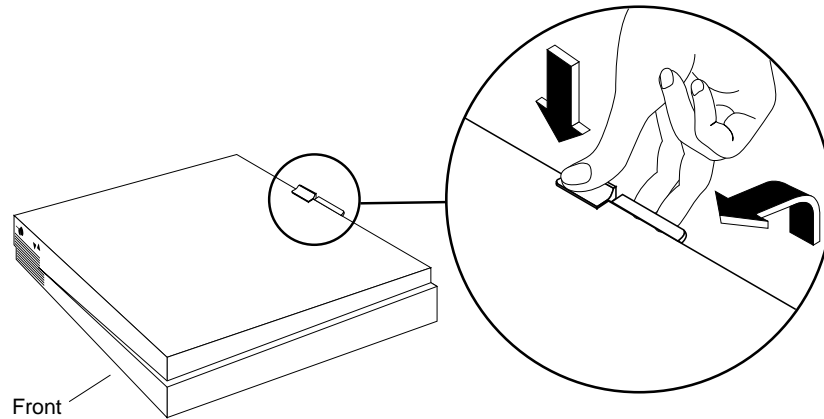

Figure 2-28 Removing the Top Cover From the Indy Workstation
3. Facing the front of the Indy workstation, place your right thumb on the small lip at the back of the cover, and your second and third fingers under the finger ledge, as shown in Figure 2-28.